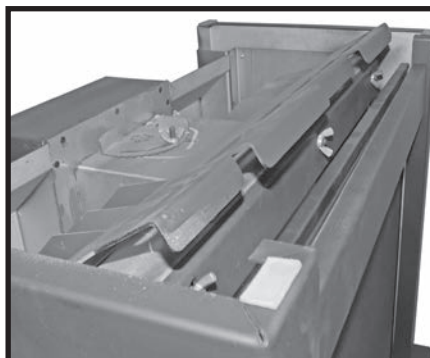
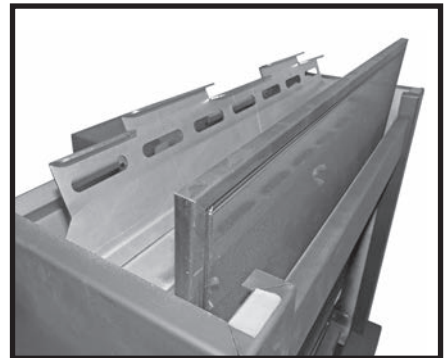

Figure 38: TN24 mesh cover plate.
Figure 39: TN24 mesh removal.
2. Raise the screen mesh cover as shown in (Figure 38), and lift the screen mesh out (Figure 39).